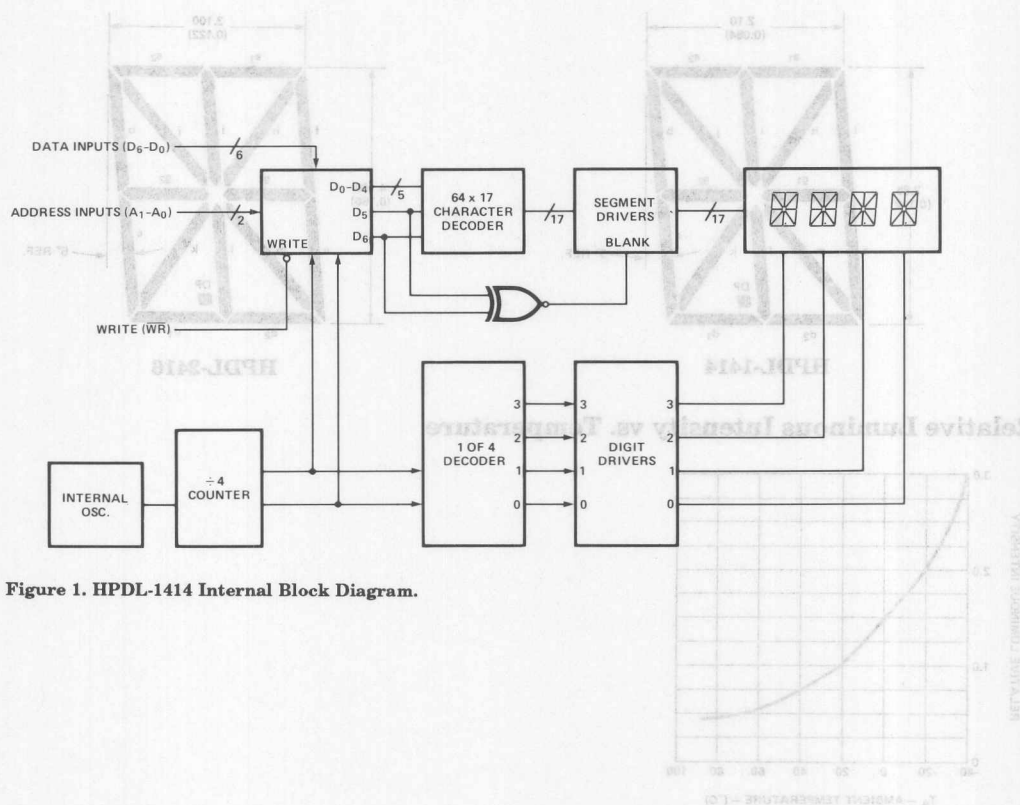

Figure 1. HPDL-1414 Internal Block Diagram.
Figure 1 shows the internal block diagram of the HPDL-1414. It consists of two parts: the display LEDs and the CMOS IC. The CMOS IC consists of a four-word ASCII memory, a 64-word character generator, 17 segment drivers, four digit drivers, and the scanning circuitry necessary to multiplex the four monolithic LED characters. In normal
Figure 4 shows a truth table for the HPDL-2416 display. Setting the chip enables (CE1, CE2) to their low state and the cursor select (CU) to its high state will enable data loading. The desired data inputs (D6-D0) and address inputs (A1, A0) as well as the chip enables (CE1, CE2) and cursor select (CU) must be held stable during the write cycle to ensure that the correct data is stored into the display. Valid ASCII data codes are shown in Figure 1. The display accepts standard seven-bit ASCII data. Note that D6 ≠ D5 for the codes shown in Figure 4. If D6 = D5 during the write cycle, then a blank will be stored in the display. Data can be loaded into the display in any order. Note that when A1 = A0 = 0, data is stored in the furthest right-hand display location.